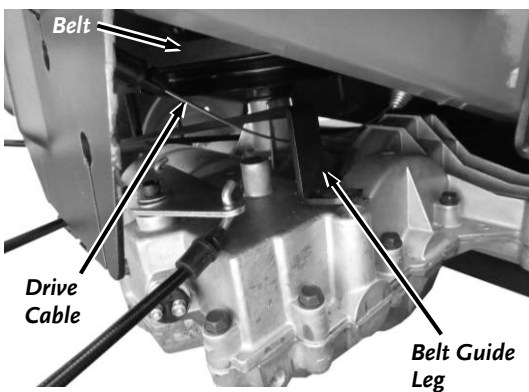

Figure 28
12. Secure the Belt Guide to the Transaxle with the two Bolts. Ensure the Drive Cable is on the inside of the Belt Guide leg (Figure 28).